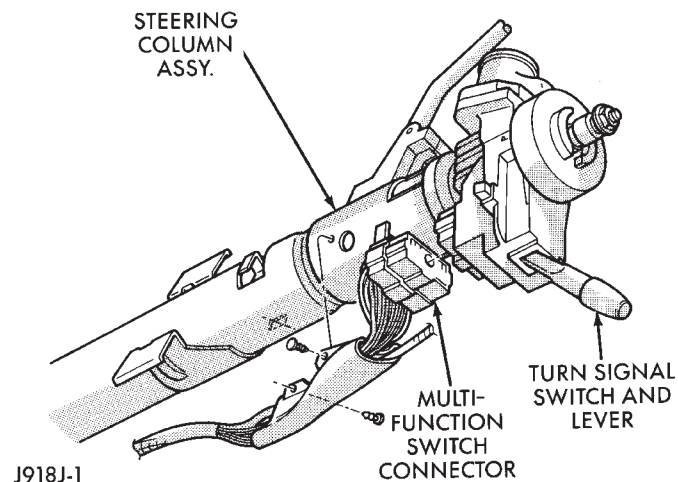

Fig. 14 Multi-Function Switch Connector -Typical
(10) Remove the lower fixed column shroud.
(11) Loosen the steering column upper bracket nuts. Do not remove the nuts.
(12) Move the upper fixed column shroud to gain access to the rear of the multi-function switch (Fig. 14).